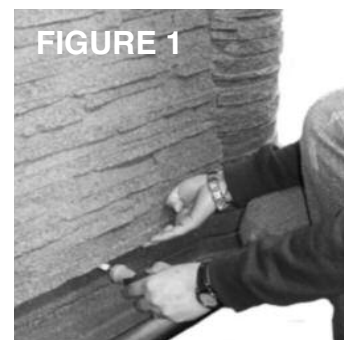

FIGURE 1
2. Remove exterior resin panels by inserting a flathead screwdriver at the bottom edge of the panel and prying out (Figure 1) or by prying out decorative plugs and unscrewing screws on UltraTec panels.